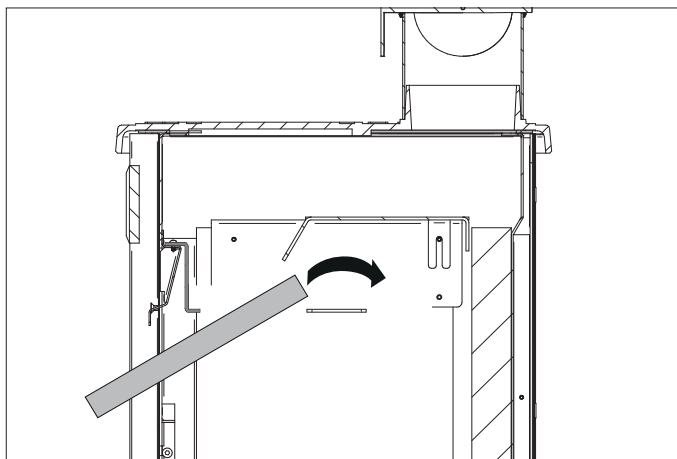
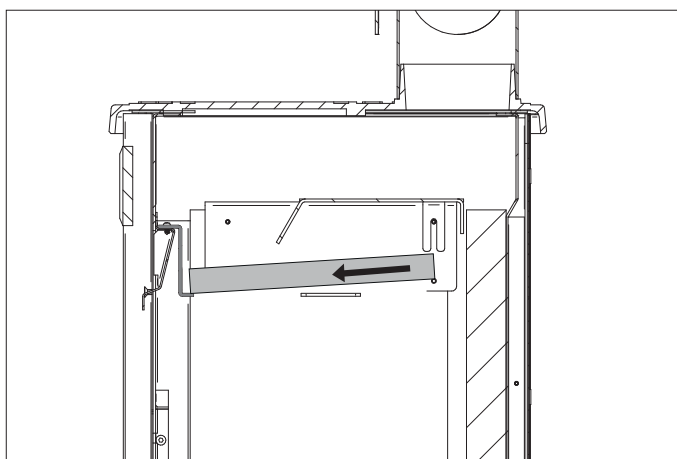

Fig. 6.2a
Fig. 6.2b
- remove the packaging of the refractory panel. Place the latter inside the combustion chamber after first performing the operation described in **Fig. 6.2a** and then **Fig. 6.2b**;